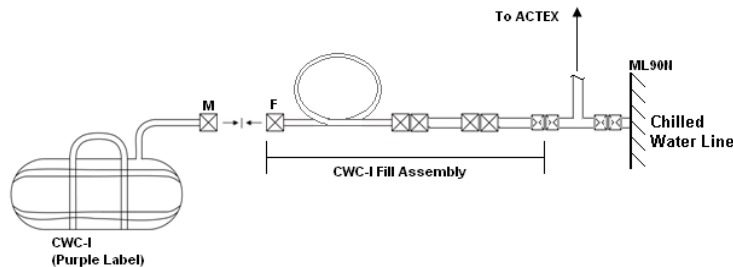

Figure 10-4.- CWC-I fill setup.
5. CWC-I →|← CWC-I Fill Assembly (see fig 10-4)